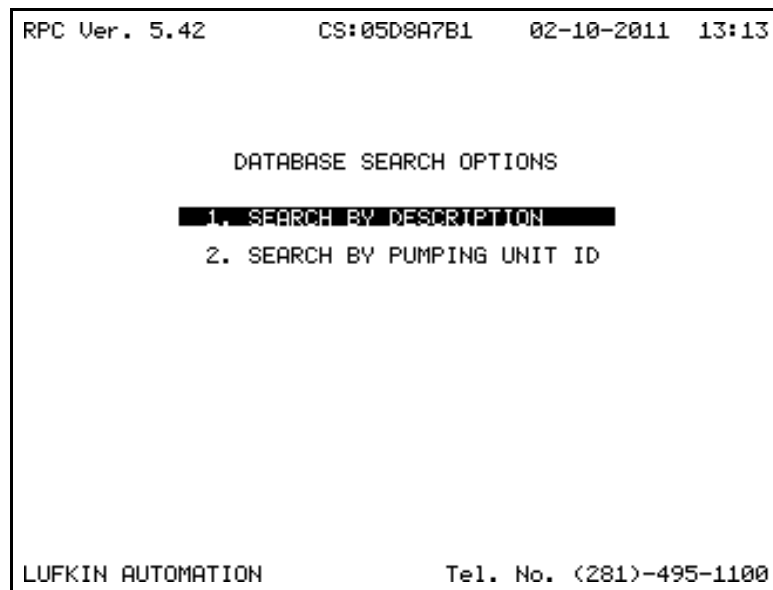

Figure F-4. Database Search Options Menu Screen
1. Display the Pumping Unit Parameters screen (**MENU: 2/1/4**) and then select **1. DATABASE SEARCH** to display the Database Search Options Menu screen (Figure F-4).